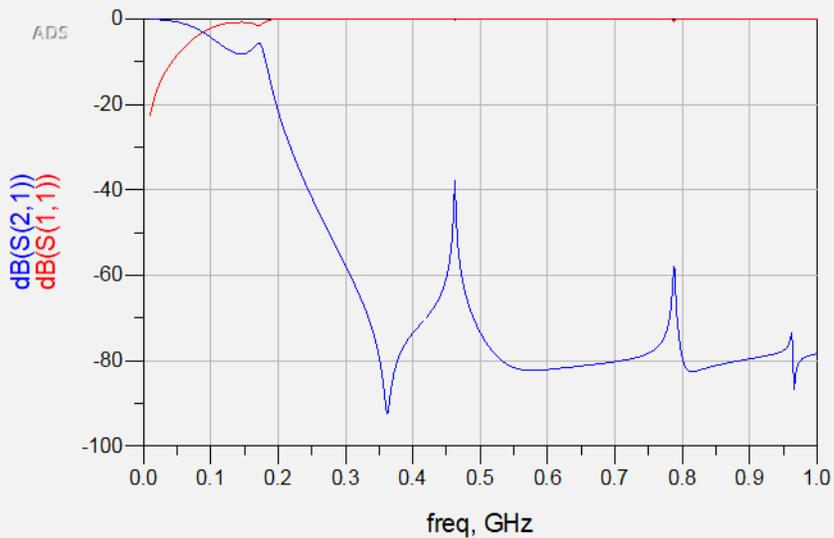

Figure 43. $S(1,1)$ and $S(2,1)$ plot for emModel with discrete components
7. In the data display, insert a rectangular plot to observe $S(1,1)$ and $S(2,1)$ as shown in Figure 43.